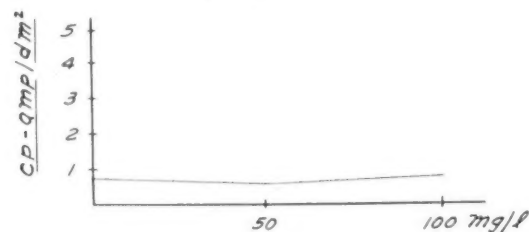

Fig. 8. Tin
c. 1. The curve in Fig. 8 shows a slight improvement in the CP around 50 mg./l.